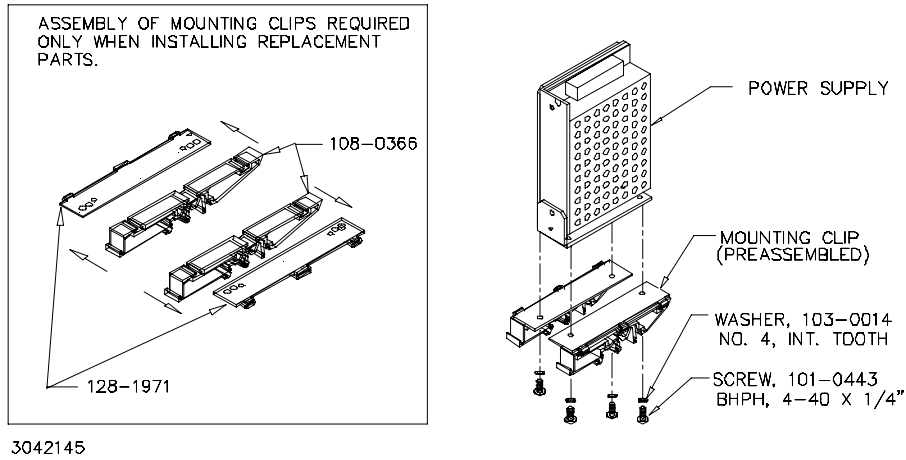

FIGURE 3. INSTALLING CLIPS ON MOUNTING BRACKET
2. **INSTALL CLIPS.** Attach preassembled mounting clips into the mounting bracket holes using hardware supplied (see Figure 3).